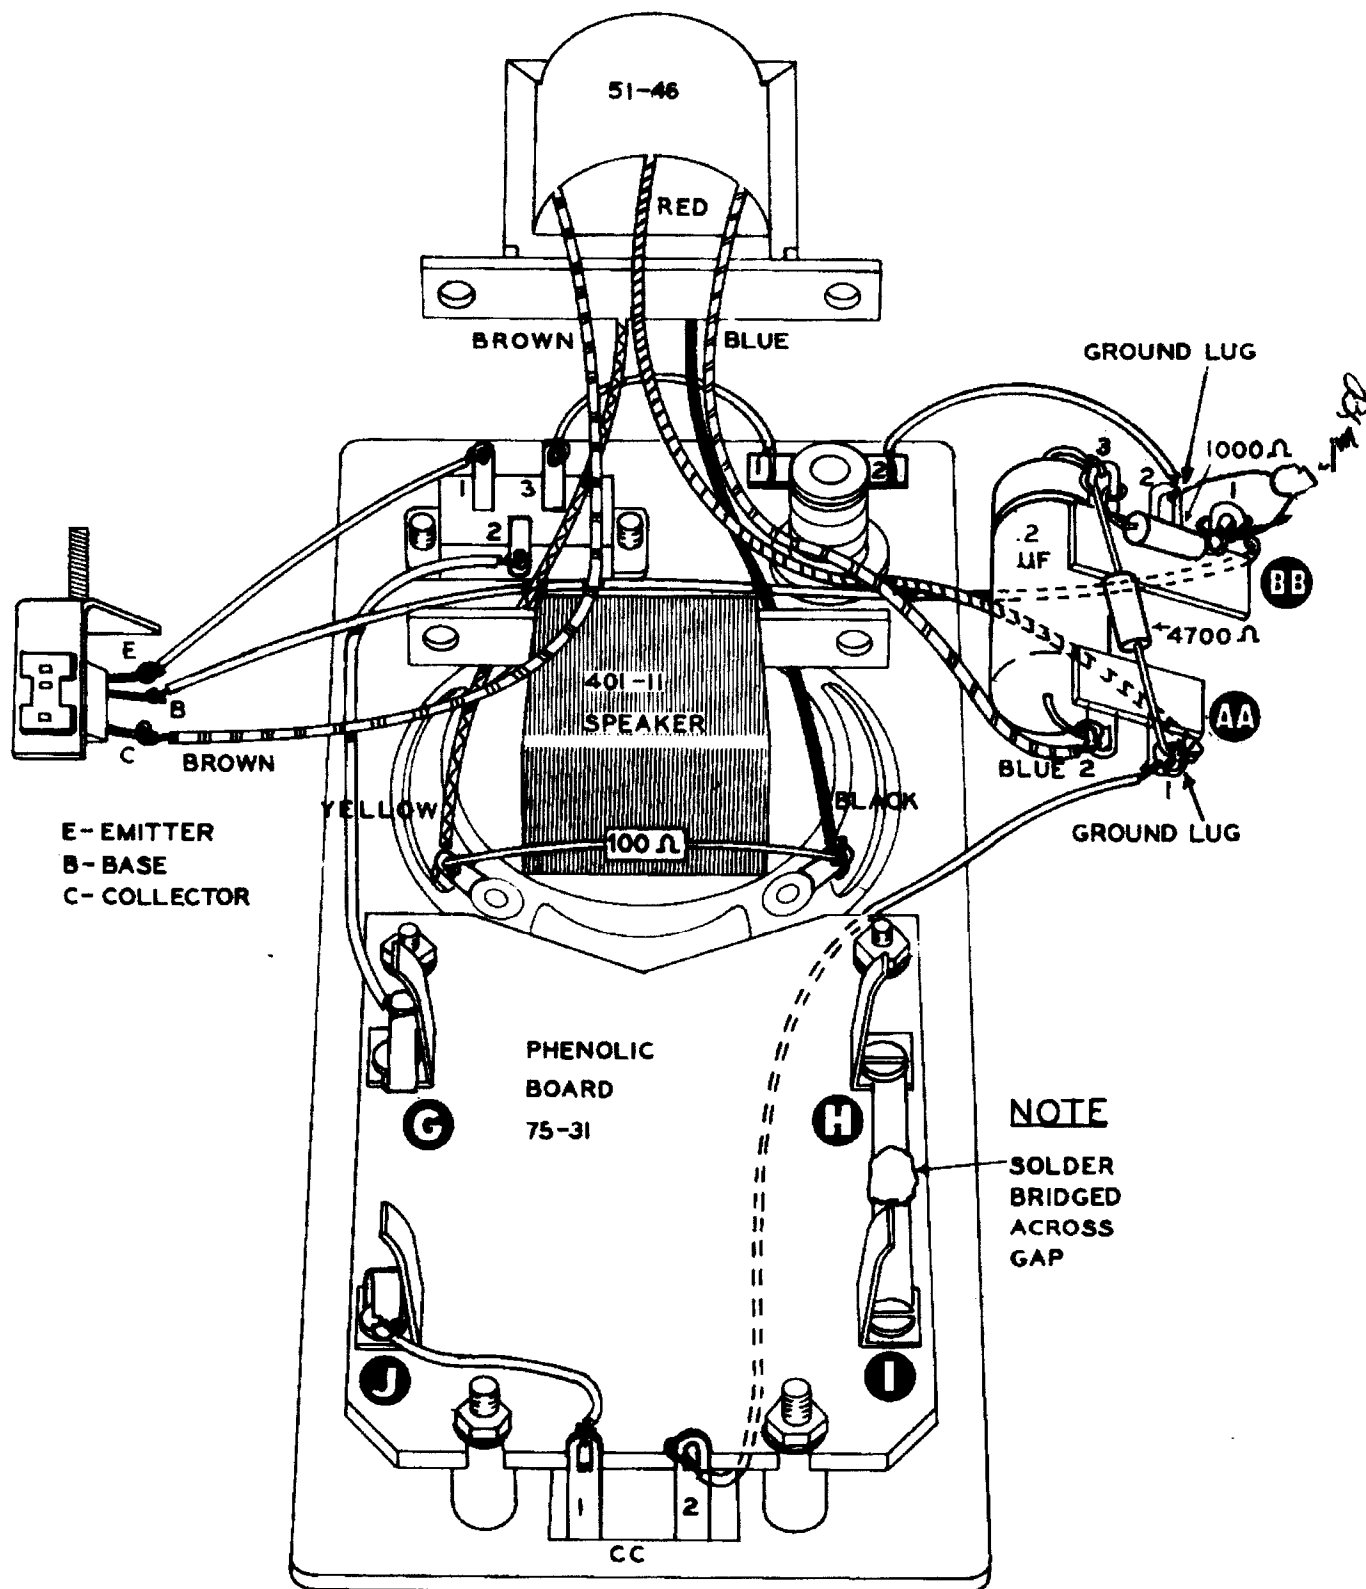

Figure 8
- () Cut a piece of hookup wire 4 1/2" long. Trim 1/4" of the insulation off the ends. Refer to Figure 8, route the lead under the phenolic board and connect to lug 1 on terminal strip AA (NS). Connect the other lead end to lug 2 on terminal strip CC (S-1).
- () Cut a piece of hookup wire 2" long. Trim 1/4" of the insulation off the ends. Connect one end to solder lug J on the phenolic board (S-1). Connect the other end to terminal 1 on the dual screw terminal strip CC (S-1). See Figure 8.
- () Cut a piece of hookup wire 2 1/2" long. Trim the insulation 1/4". Form a small hook at one end of the lead and pinch it tight around the emitter terminal of the transistor socket (S-1). See Figure 8. Connect the other end of the lead to the SPDT switch terminal 1 (S-1).
- () Form the brown lead from the transformer around the L bracket, as shown in Figure 8, and connect it to the transistor collector terminal (S-1).
- () Cut a piece of hookup wire 3 3/4" long. Trim the insulation 1/4". Form a small hook at one end of the lead and pinch it tight around the base terminal of the transistor socket (S-1). Route the lead under the transformer, as shown, and connect to lug 1 on terminal strip BB (NS). Refer to Figure 8.
- () Trim both leads on a 1000 Ω (brown-black-red) 1/2 watt resistor to 5/8" long. Connect one end to lug 3 on terminal strip BB (NS). Connect the other end to lug 1 on terminal strip BB (NS).
- () Trim both leads of a 1 μfd disc cap to 1 2/3" long to lug 1 on terminal strip BB (NS) and lug 2 on terminal strip BB (NS).
- () Trim both leads on a 4700 Ω (yellow-violet-red) 1/2 watt resistor to 1" long. Connect one end to lug 1 on terminal strip AA (NS). Connect the other end to lug 3 on terminal strip BB (NS).
- () Route the red lead, as shown in Figure 8, from the output transformer to the grounded solder lug 1 on terminal strip AA (S-3).
- () Trim both leads on the .2 μfd paper capacitor to 3/4" long. Connect one lead to lug 2 on terminal strip AA (NS). (Pull the capacitor up tight to the terminal strips and bend the lead ends around the lugs.) Refer to Figure 8. Connect the other lead to lug 3 on terminal strip BB (S-3).
- () Form a solder bridge across the two flat solder lugs Hand I at the one side of the phenolic board, as shown in Figure 8. A 1/2" piece of bare wire could be used, soldered across the gap.